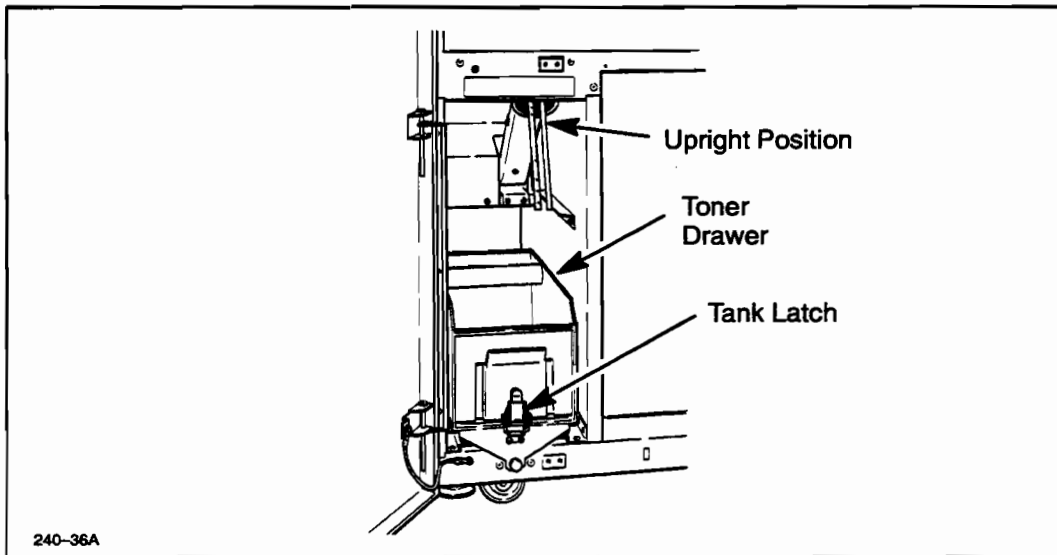

Figure 6-54. Toner Drawer Removal
3. Unscrew the syphon assembly cap and allow the assembly to rise to the full upright position. Gently tap the toner tubes to drain any residual toner. See Figure 6-54.
6. Unlatch the toner drawer and remove the drawer from the slide bracket. See Figure 6-54.